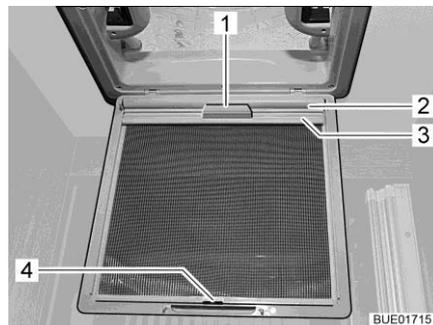

Fig. 125 Blind (skylight)
- Using the handle (Fig. 125,1), pull out the blind (Fig. 125,2) and hook the retainer (Fig. 125,3) into the hook (Fig. 125,4) on the insect screen.
- Release the retainer (Fig. 125,3) from the hook (Fig. 125,4) and, using the handle (Fig. 125,1), slowly return the blind (Fig. 125,2).